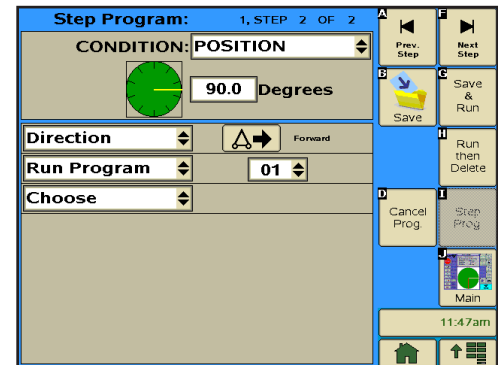

Figure 153-1
8. Program the position condition for this step. Refer to Figure 153-1.